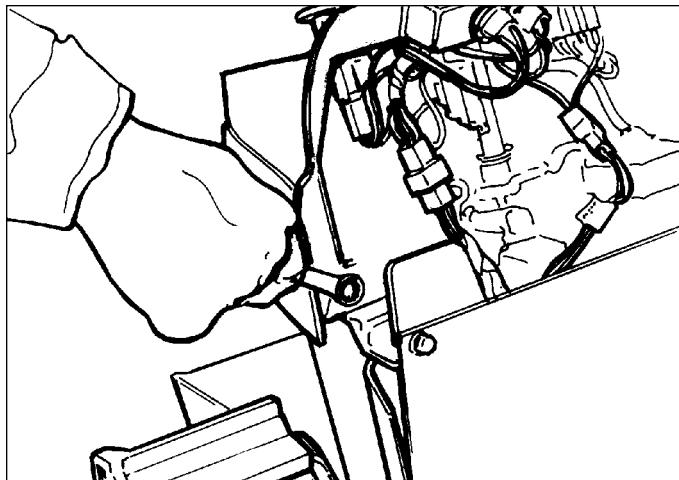

Figure D-8. Remove Front Dash Mounting Screws
8. Remove the whizlock capscrews from the lower front corners of the dash using a 3/8" box wrench. These screws fasten into captive palnuts on the dash, and require no additional tools for hardware removal. (Figure D-8)